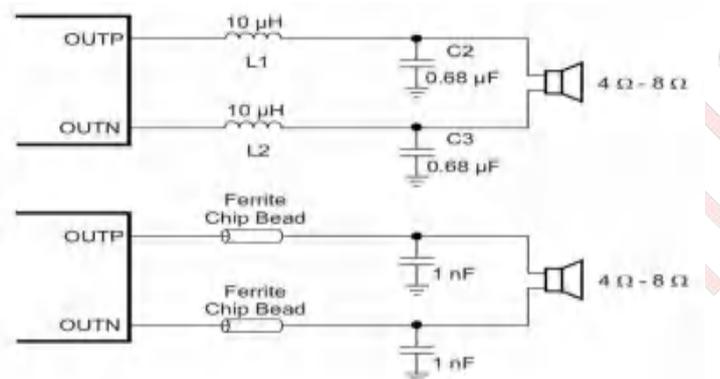

Figure 29. Output Filters
A complete LC reconstruction filter should be added in some circuit instances. These circumstances might occur if there are nearby circuits which are sensitive to noise. In these cases, a classic second order Butterworth filter similar to those shown in Figure 29 can be used.
- Output filter — The ferrite EMI filter (see Figure 29) should be placed as close to the output terminals as possible for the best EMI performance. The LC filter should be placed close to the outputs. The capacitors used in both the ferrite and LC filters should be grounded.